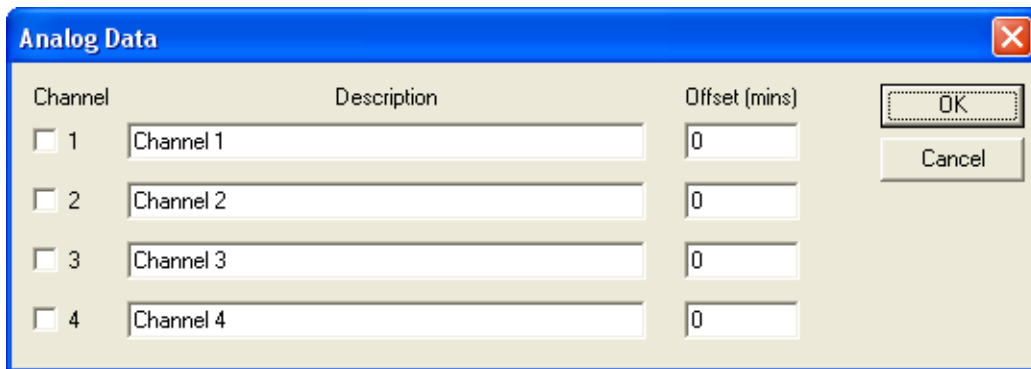

Figure 5-9 Analog Data Dialog Box
1. On the MS Method Editor, select Options > Analog Data to open the Analog Data dialog box (Figure 5-9).